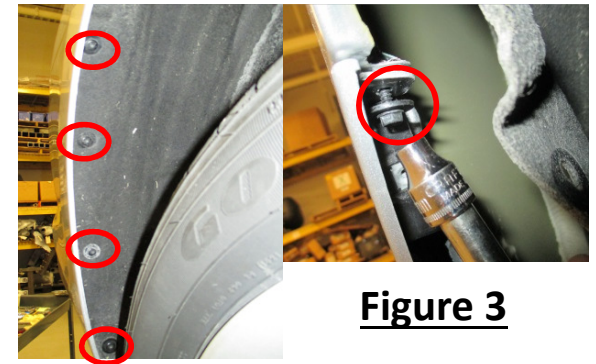

Figure 3
1. Fascia removal – use flat head screwdriver and 10mm socket to remove (2) rivets and (2) plastic caps from bottom fascia, see Figure 2. Use T15 driver and 7mm socket to remove (5) screws from wheel well each side, see Figure 3. Open the trunk and gently remove the fascia. Carefully set the bumper fascia aside.